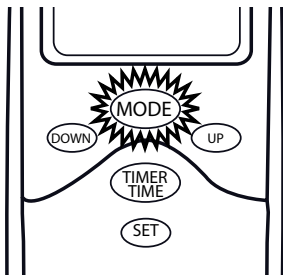
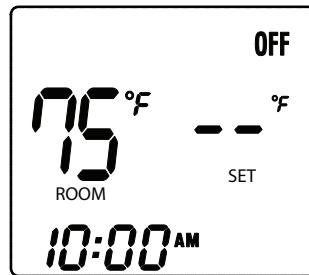

Fig. 3 Mode Button
Fig. 4 OFF Mode
To operate the transmitter, press and release the MODE button (Fig. 3) until the LCD screen reads OFF in the display (Fig. 4).
**Step 3:** Press the MODE button a third time to turn the appliance back OFF again as show in Fig. 4.